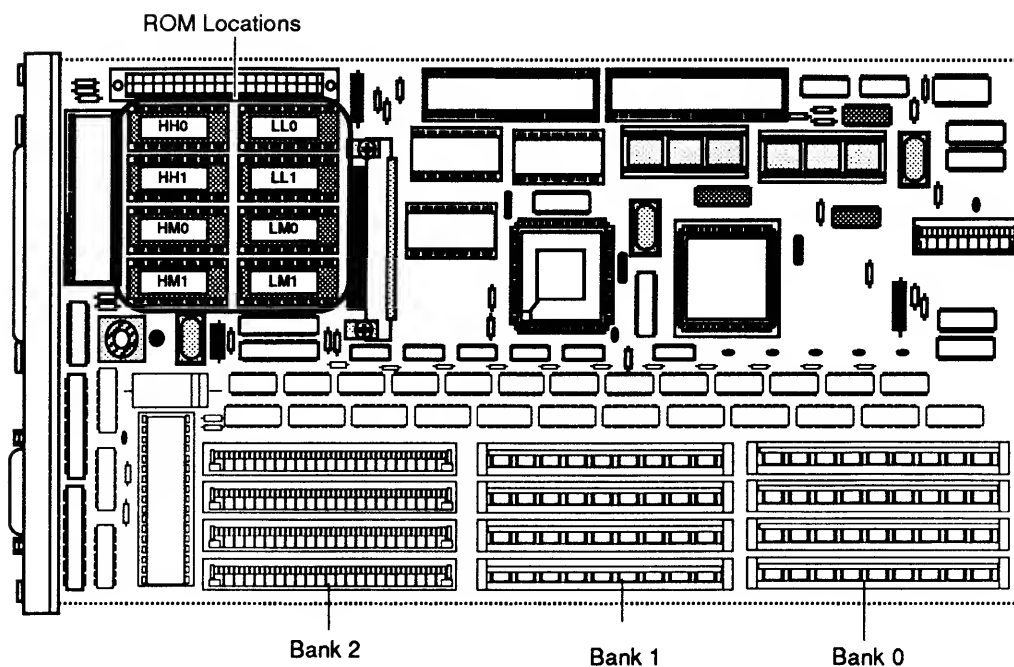

Figure 6-9 ROM Socket Locations
4. Locate the eight ROM chips at locations **HH0, HH1, HM0, HM1, LL0, LL1, LM0, and LM1** on the controller-I/O board (**Figure 6-9**). Using an IC extractor, carefully remove the eight ROM chips from the board.
These markings match the ROM socket locations on the controller-I/O board (**Figure 6-9**).
7. To install the new ROM, match the markings on each ROM chip with the corresponding socket on the controller-I/O board (**Figure 6-9**).